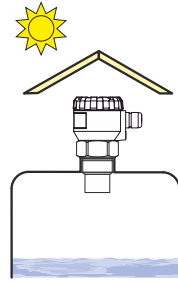

Fig. 13: Solar radiation shielding cover
- Rotating **mixer blades** can cause that the surface is stirred, which results in false reflections of the ultrasonic signal from the surface level and unreliable operation of the level meter (Fig. 13). For a rippled or swirling level, you can use the directional horn to eliminate scattering of the ultrasonic signal.
- If the installation in places with direct solar radiation is inevitable, it is necessary to mount a shielding cover above the level meter (Fig. 13).